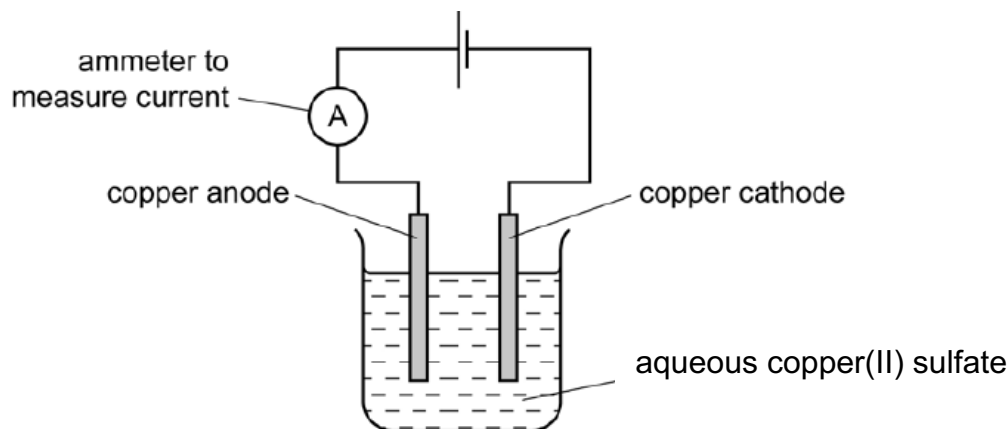

Fig 10.1
- B10** A student carries out a series of experiments. In each experiment, he electrolyses aqueous copper (II) sulfate solution using the apparatus shown in Fig 10.1.